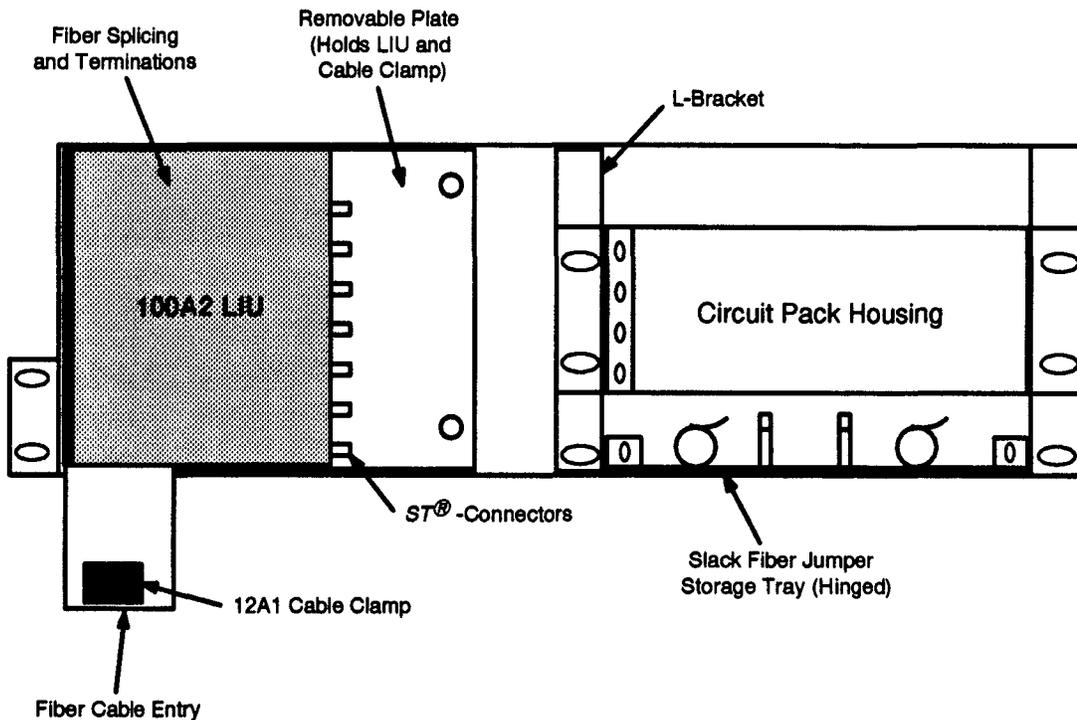

Figure 3-14. DDM-Plus Cabinet Distant Terminal
The DDM-Plus Cabinet Distant Terminal (DT) provides all the necessary components for deploying three DDM-Plus systems including housing for the circuit packs, fiber jumper storage area, fiber cross connect, fiber splicing, and outside plant fiber cable termination. The Cabinet DT has a total capacity of 12 DS1s. These features make it particularly suitable for use in small outside plant cabinets such as the AT&T 51A cabinet, where space is critical, and there is no room for external fiber management gear. As with the DDM-Plus Extension Shelf, the Cabinet DT provides the flexibility of carrying the DS1s on copper, using AEK-type T1 repeaters, or on fiber using the 25A OLIUs or the 25F OLIUs. Figure 3-14 shows the DDM-Plus Cabinet DT.